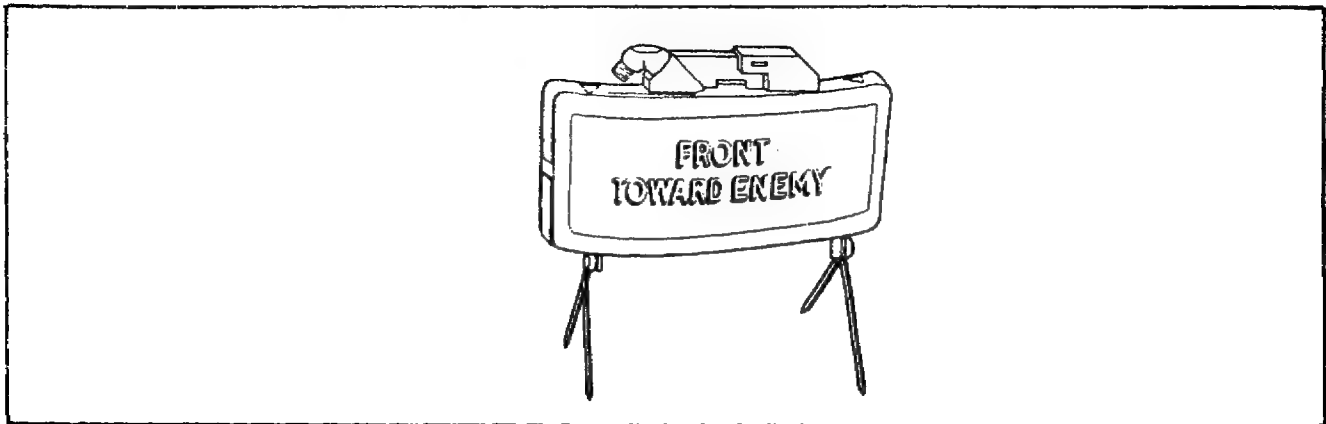

Figure 55. Mine, Antipersonnel, M18A1.
**Mine, Antipersonnel, M18A1.** The M18A1 mine (Figure 55) is a directional, fixed, fragmentation mine used in defense of positions. This mine, often called the Claymore, consists of a curved fiberglass case filled with a high-explosive and small steel spheres. It is positioned on scissors-type folding legs and aimed in the desired direction by a sight.